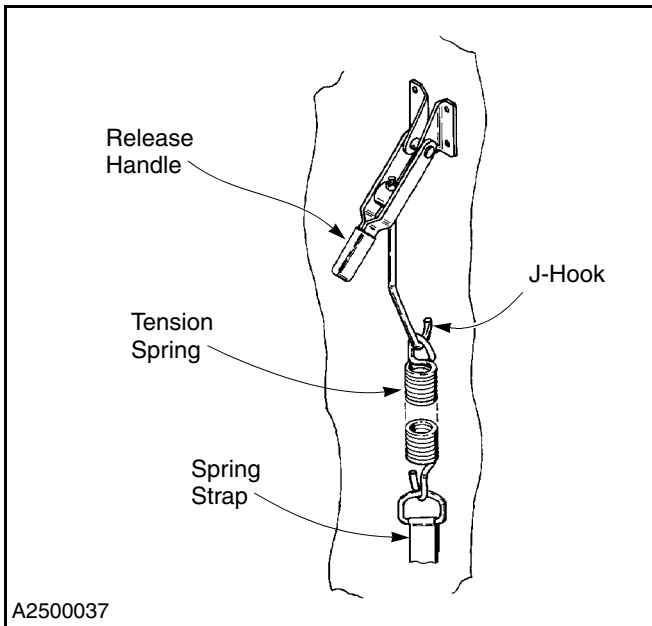

Figure 6
4. Unlatch the release handle on the spring tension assembly. Then disconnect the tension spring from the J-hook. (See Figure 6.)